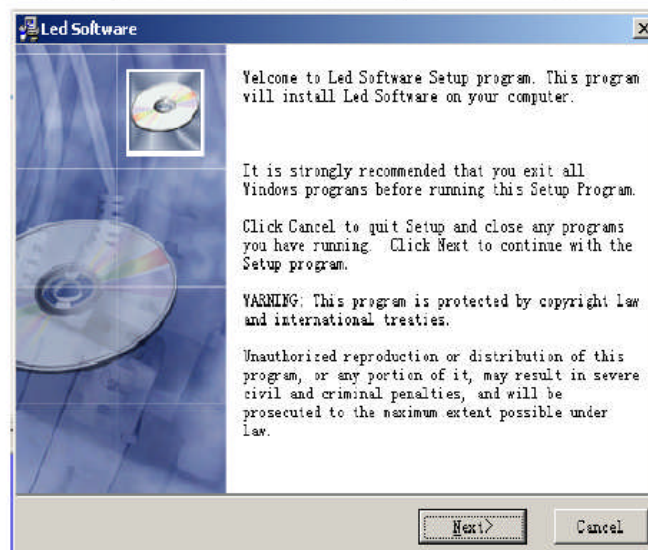

Figure 4-2
2). Choose "Install Led studio" to start installation guidance, as shown in below figure 4-2. And the serial no. is 888888.